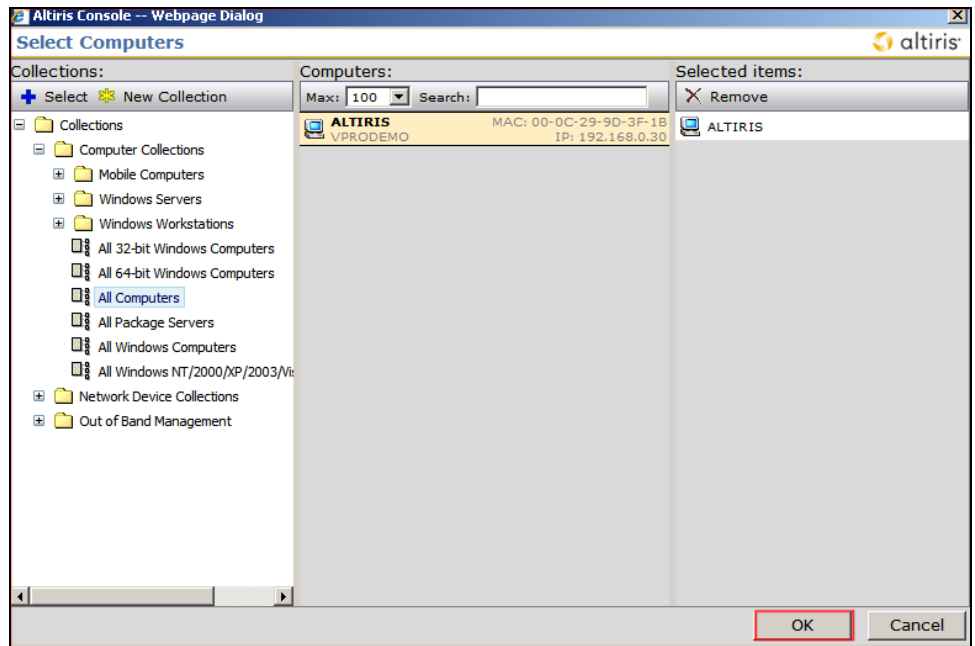

Figure 3. Select computers or systems to inventory
6. Select collections or PCs as needed (see Figure 3). The selected systems will be moved to the right side of the screen. Each PC in each collection and all individually selected PCs will have this task run on them.